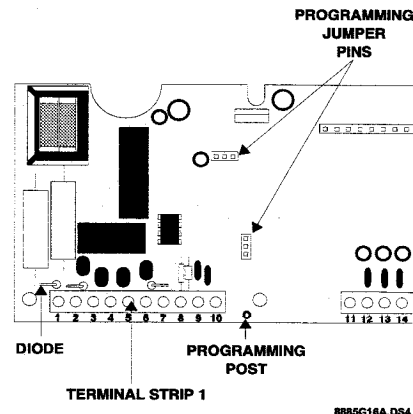

Figure 7. Locations of Programming Post, Programming Jumpers, and Diode.
**Note:** If you are using a lineman's telephone handset (a phone with wiring clips instead of a plug connection), connect one clip to the programming post and the other to the top of the diode above terminal #1 on terminal strip 1 (See Figure 7)